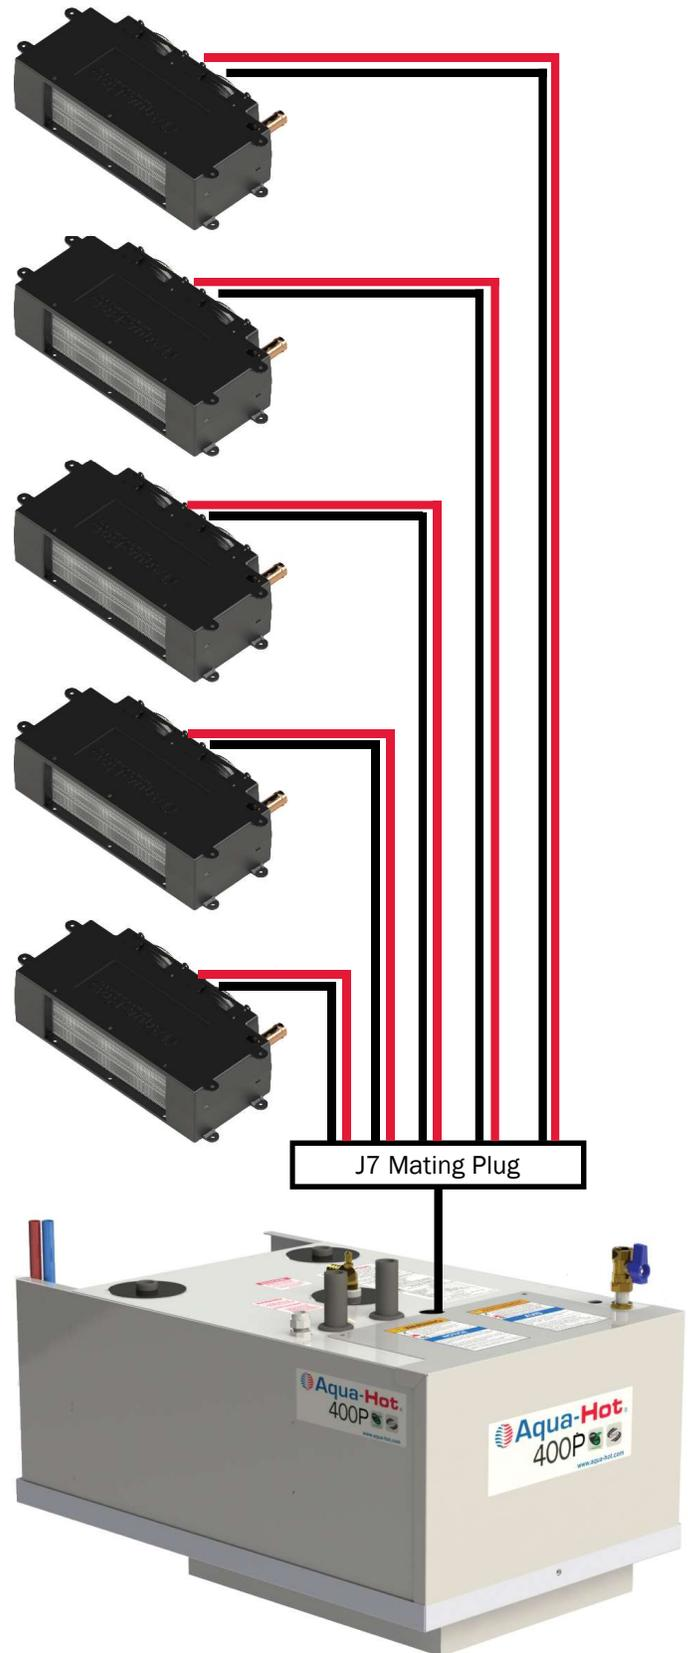

Figure 31
1. Wire each heat exchanger (in a heating zone) in parallel to one another as shown in Figure 31.